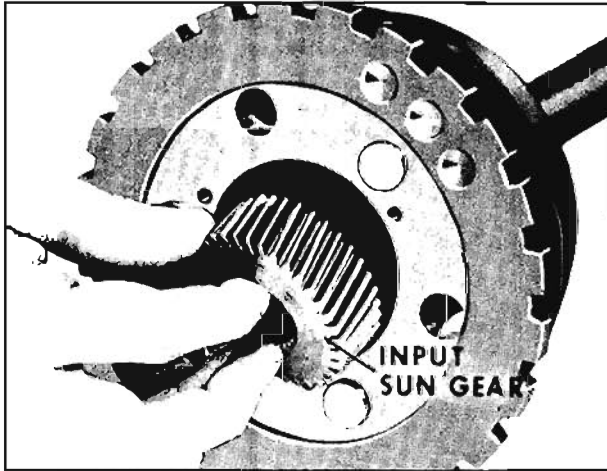

Fig. 6-388 Removing Input Sun Gear
- Remove input sun gear. (Fig. 6-388)